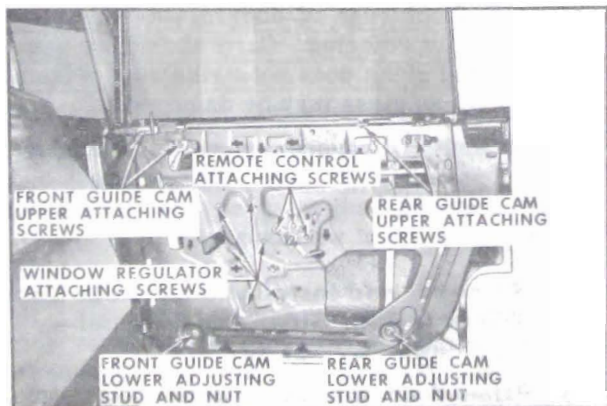

Figure 2-36—Rear Door Assembly - "39" Styles
2. Remove remote control attaching screws and remove remote control from connecting rod. (See Figure 2-36)
4. Remove regulator attaching screws, disengage balance arm from inner panel cam and remove regulator assembly through access hole. (See Figure 2-36)